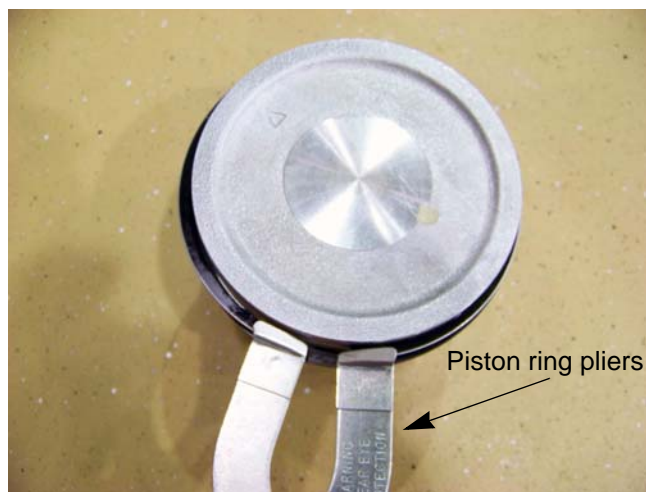

Figure 10.7
20. Remove the piston rings from the piston using a pair of piston ring pliers. See Figure 10.7.